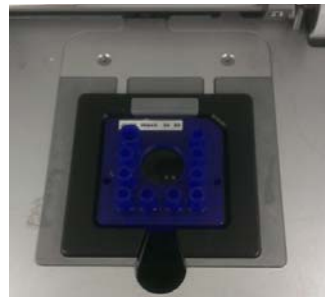

Figure 6. Chip in the LabChip GXII Touch instrument.
- 5 Insert the chip into the LabChip GXII Touch instrument (Figure 6) and close the chip door securely.